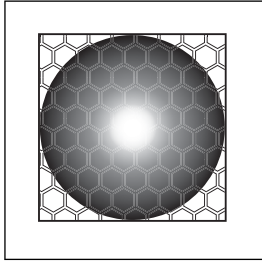

Fig 15
- red LED flashes = beam is moving from the shaded area (see **Fig 15**) to the centre of the reflector